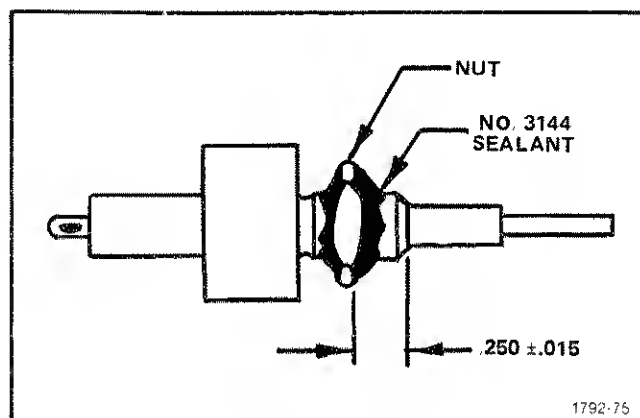

Fig. 5-22. Application of sealant to ZERO REFERENCE control nut.
3. Install nut as shown in Fig. 5-22.